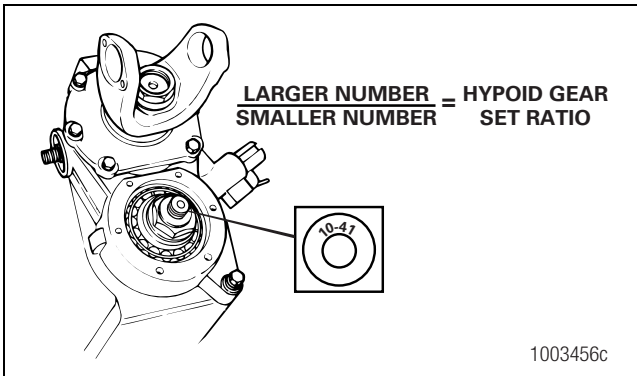

Figure 4.19
2. Look into the carrier housing. Identify and record the gear set teeth numbers stamped on the drive pinion end. Figure 4.19.
3. Calculate the hypoid gear set ratio by dividing the larger number by the smaller number. Figure 4.19.